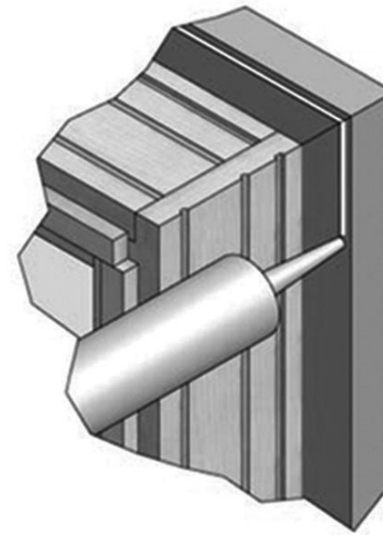

FIG. 11
- F) Apply sealant: On the backside of the head and side brickmould, run a 1/4" continuous bead of silicone along the entire length 1/4" from the outside edge of the brickmould. (Fig. 11 & 12)